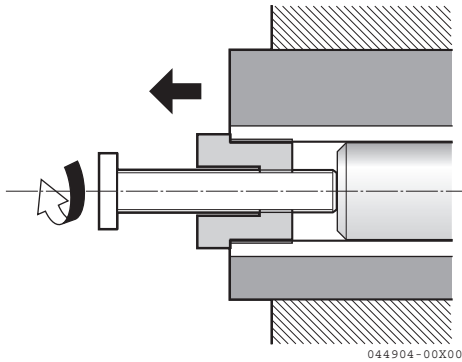

Figure 15
*Note: When replacing a used impeller with a new one, the impeller must have an M16 × 2 thread (**Figure 15**). Turn the M16 screw side of the impeller to the cover side and install.*